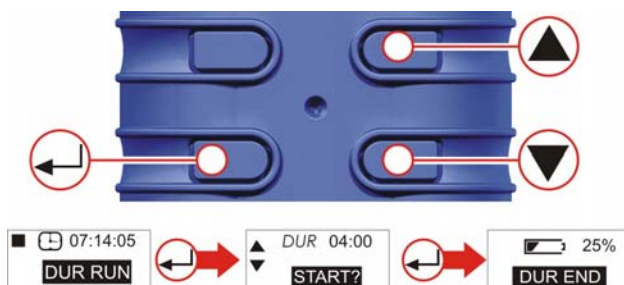

Figure 9 Run Duration
F. RUN DURATION (PRO and PLUS ONLY) (Fig. 9)